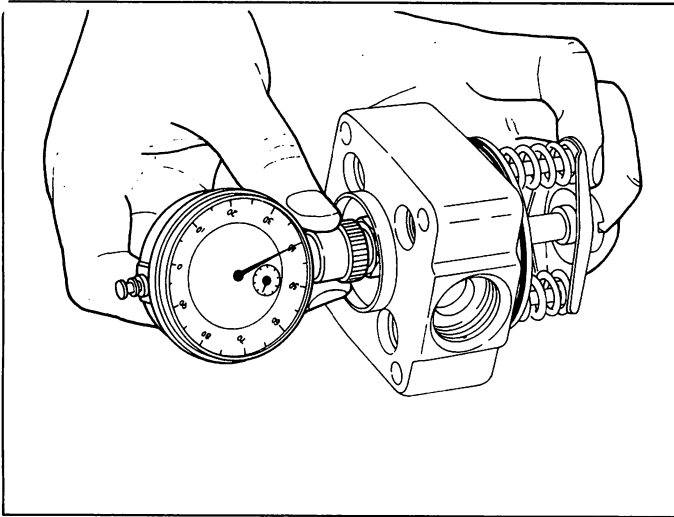

Fig. 62 Measuring the "KF" dimension
6. Adjust the thickness of the shims (48) until the "KF" dimension is as specified. (Fig. 62) Fit shims (48) of identical thickness to both the left and right plunger springs.